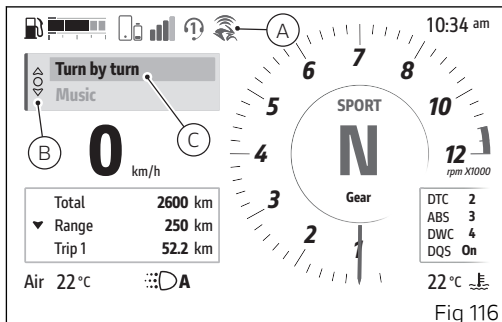

Fig 116
- Select the Interactive Menu (B, Fig 116) by pressing and holding button (1) down for a long time.
- Use buttons (1) and (2) to select item "Turn by turn" (C, Fig 116) and press the ENTER button (3).